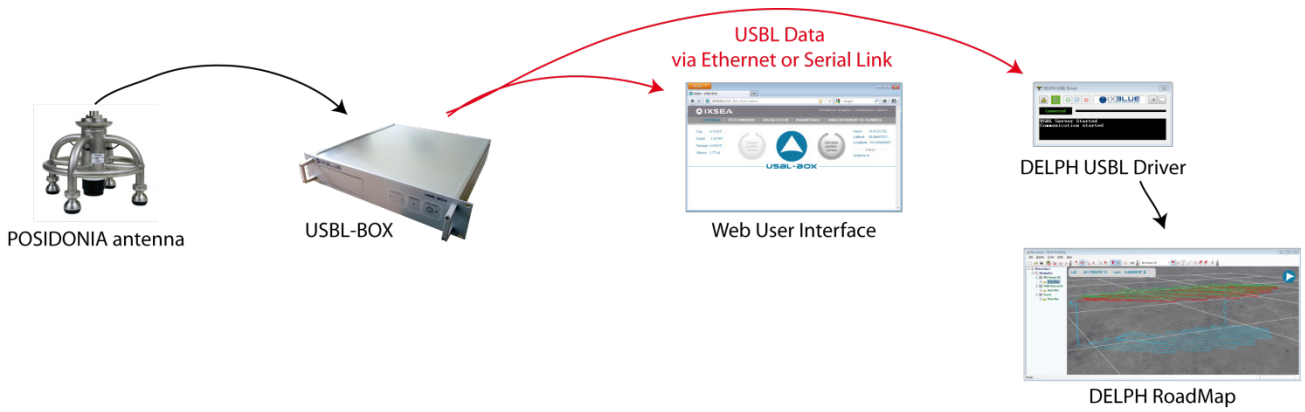

Figure 27 – Visualization of USBL data in real-time mode
- Real-time mode: the position data is output via the Ethernet or serial link, DELPH USBL Driver transmits the real-time data to DELPH RoadMap and the data is displayed in DELPH RoadMap main display area. See Figure 27.